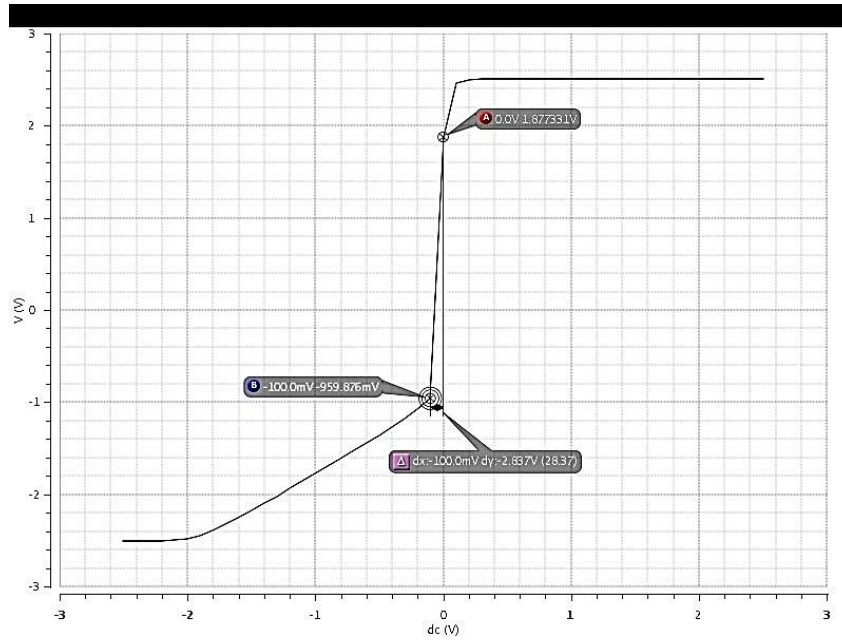

Figure 8.11: DC plot of Differential Amplifier
- (b) The response of the DC analysis is shown in Fig.8.11.